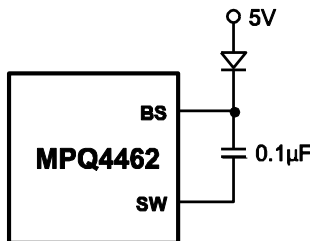

**Figure 2: Recommended Max. VIN vs fs**
- The recommended operating voltage is  $< 12$ V, and  $< 24$ V at 2MHz. Refer to Figure 2 for more information.